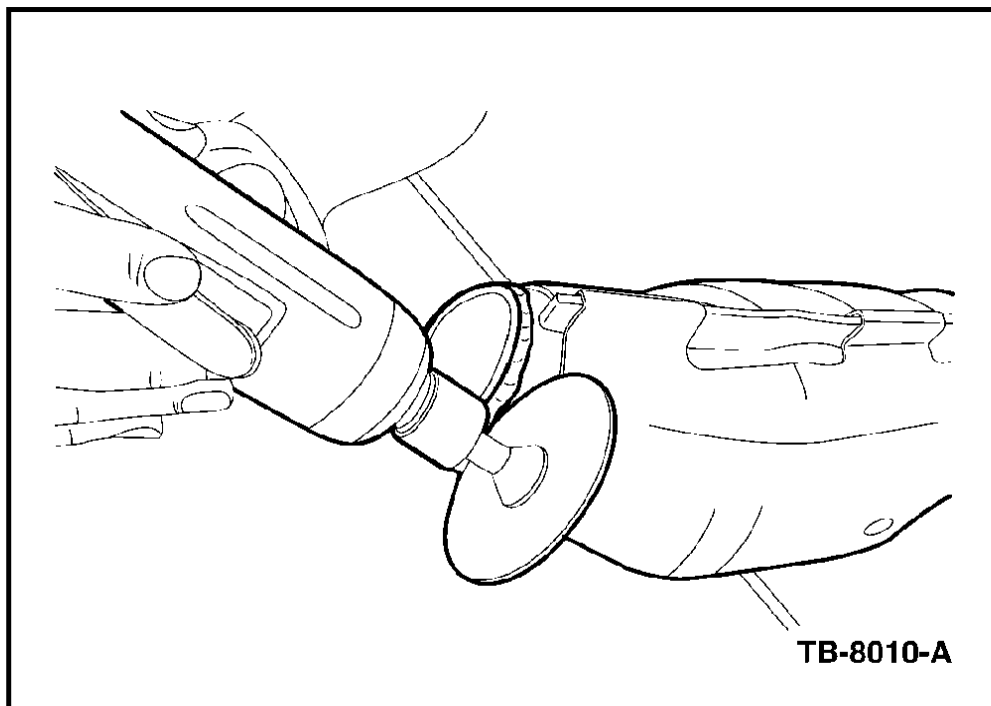

Figure 5
3. Cut around the exhaust tube (on the catalyst side of the weld) using a die grinder (Figure 5).